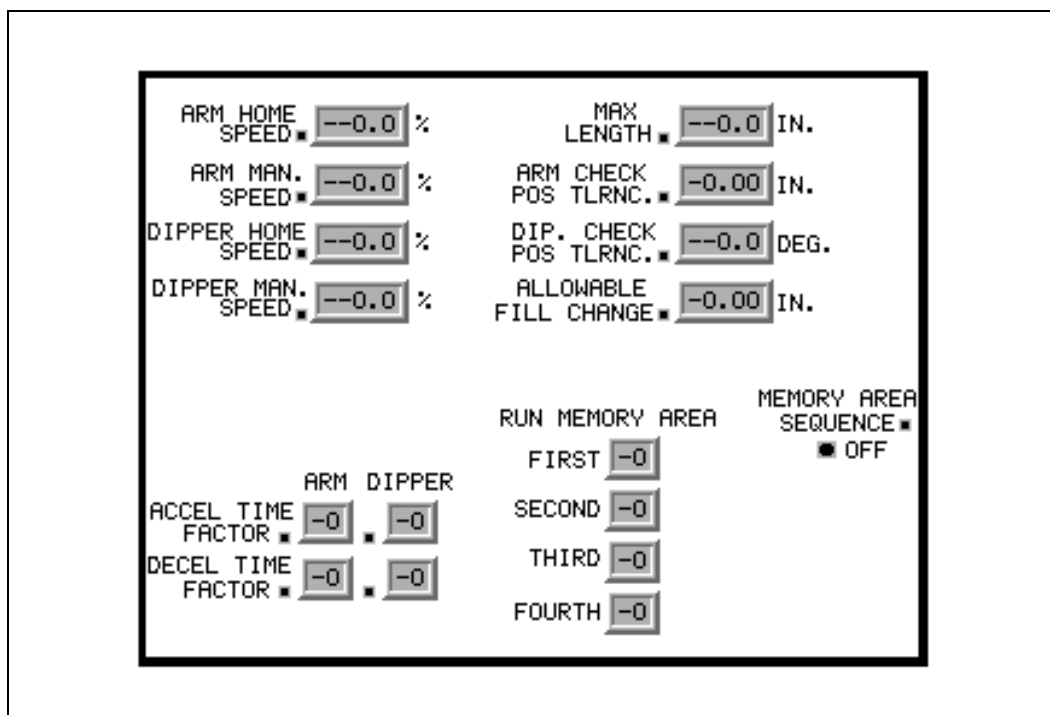

Figure 9-3: System Defaults Screen
4. Look at the value in the **ARM CHECK POS TLRNC** or **DIP CHECK POS TLRNC** fields on the System Defaults Screen to verify that it is set to a reasonable value, about 2.0 inches (Figure 9-3).
For troubleshooting purposes, the user can disable this fault by setting a value of 99.9 in the **ARM CHECK POS TLRNC** or **DIP CHECK POS TLRNC** fields on the System Defaults Screen (Figure 9-3). It is recommended that this alarm NOT be disabled during normal operation.